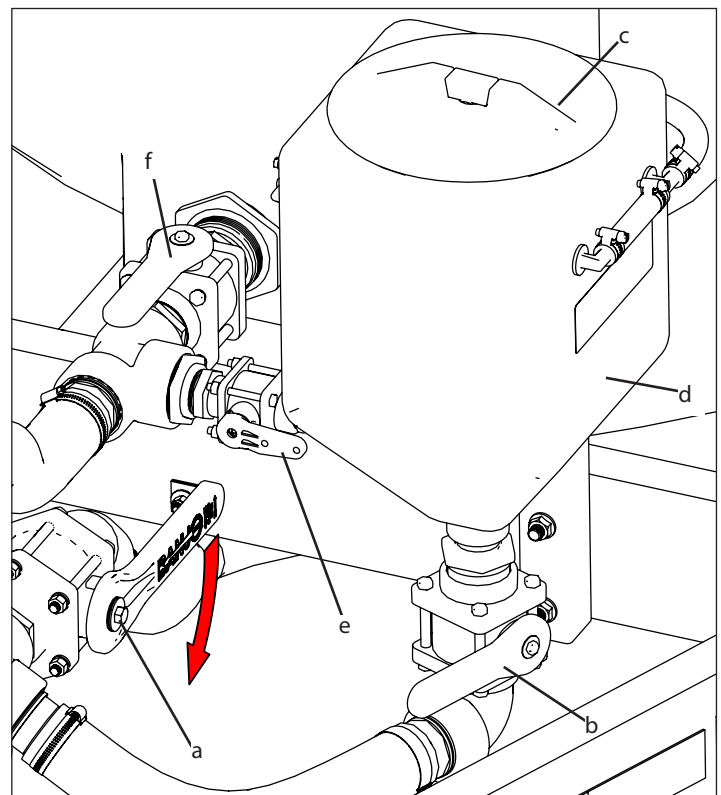

Figure 5: Chemical Induction System
6. Partially close the suction valve (a) (approximately 1/3) as shown (Figure 5).
7. **IMPORTANT:** Close the bypass valve (f) (Figure 5) (if equipped) to prevent chemical from returning to the tank.
8. Open the induction tank valve (b), as shown (Figure 5), to induct the chemicals. Lift the lid (c) and pour the chemicals into the induction tank (d) (Figure 5).
9. To incorporate soluble powder or granular chemicals, open the induction rinse valve (e) (Figure 5) and slowly pour the chemical into induction tank (d) (Figure 5).
10. If the chemical begins to vortex in the induction tank, slowly close the induction valve (b) (Figure 5) until the chemical begins to be inducted properly.
12. When the chemical induction tank is properly rinsed, close the induction valve (b) (Figure 5) and fully open the suction valve (a) (Figure 5).